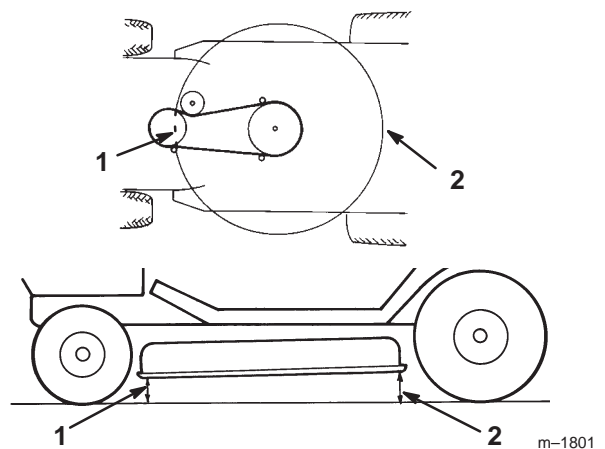

Figure 49
- Check the front-to-rear blade slope by measuring between the bottom of the mower (front center and rear center) and the flat surface (Fig. 49). If the front of the mower is more than 5/8 in. (16 mm) lower than the rear of the mower, an adjustment is required; refer to steps 6–10.